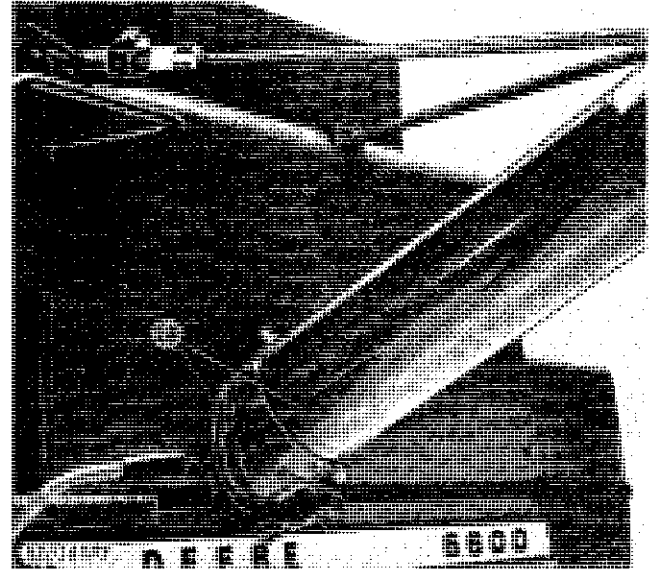

Fig. 20-Adjusting Over-Center Lock
14. Start combine engine and swing auger into unloading position and work over-center lock (Fig. 20).